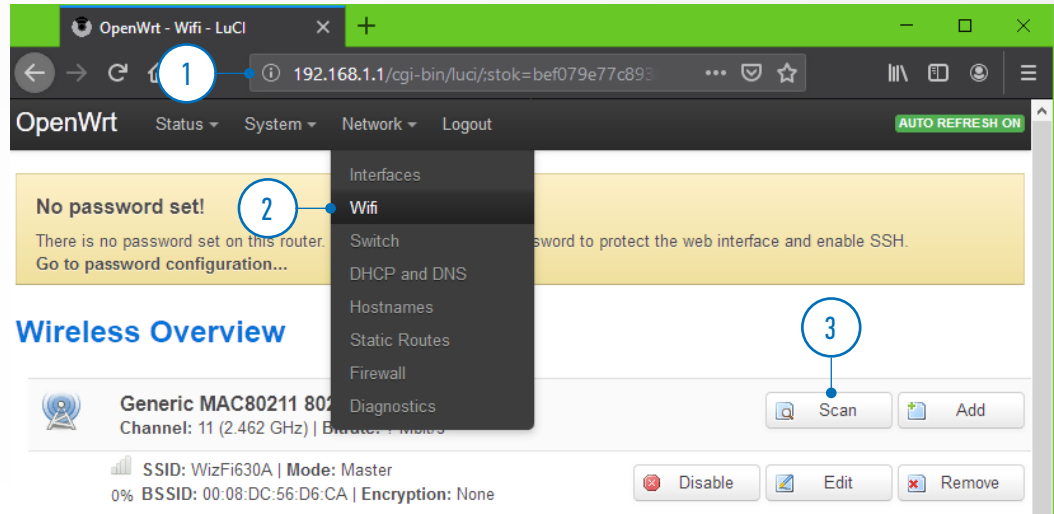

FIGURE 8 INITIATING EXISTING WI-FI NETWORKS SCAN
2. Select **Network** -> **Wi-Fi** from the top menu (Fig.8 Pos.2)
3. Click the **Scan** button (Fig.8 Pos.3)